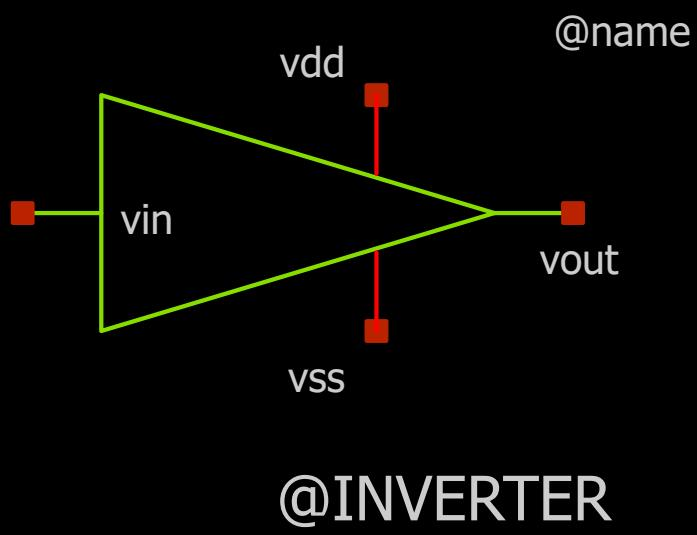

Figure 4: Xschem Symbol.
8. Once finished, save the schematic **Ctrl+Shift+S** See Figure 4
9. For creating a symbol, **Symbol --> Make symbol from schematic | Ctrl+L**. We can also edit the symbol by opening it in a new tab, see Figure 4